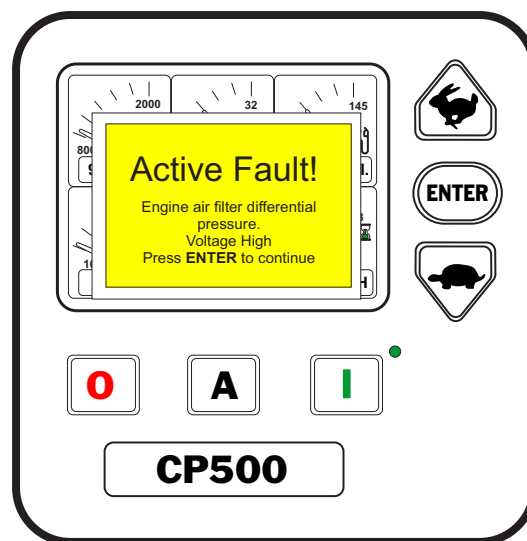

Figure 17. Engine Fault (Air Filter Differential)
- When an engine fault has occurred, it will be displayed as shown in Figure 17.